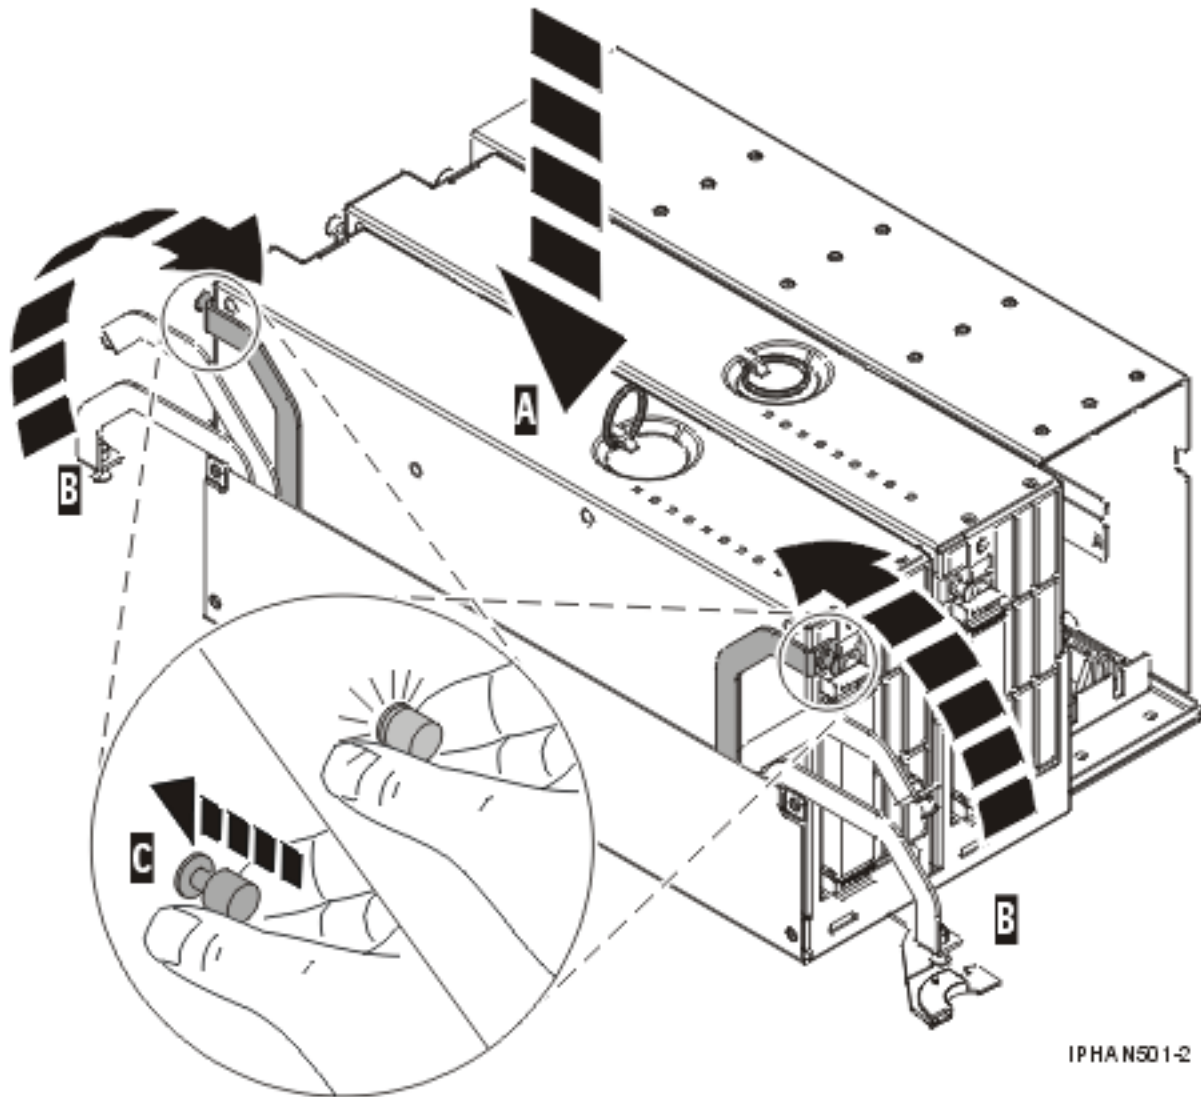

Figure 16. Replace the model 9117-MMA or 9406-MMA backplane assembly
2. As shown in Figure 16 on page 23, place the system processor assembly into the system backplane assembly **(A)** using the location information that you recorded during the removal procedure.